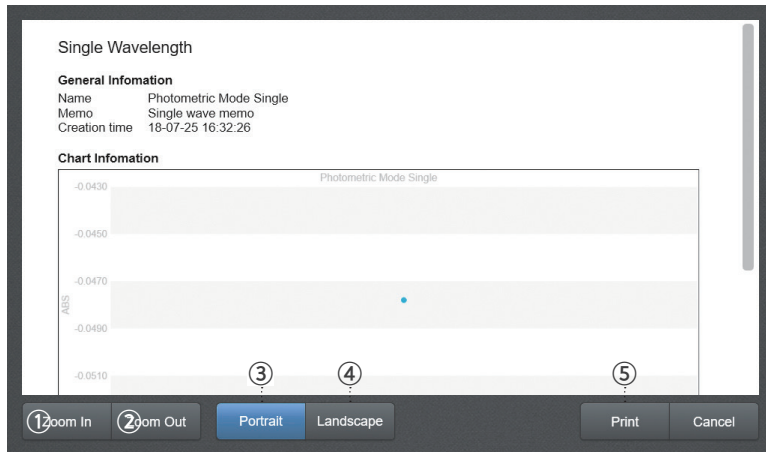

Fig. 2.15
8. [Fig. 2.15] You can zoom in or out on the printing details using the ① **Zoom In** or ② **Zoom Out** buttons.
9. [Fig. 2.15] You can check or print in landscape or portrait mode using the ③ **Portrait** and ④ **Landscape** buttons.
10. [Fig. 2.15] Check the details to print and press the ⑤ **Print** button to open the print settings screen.